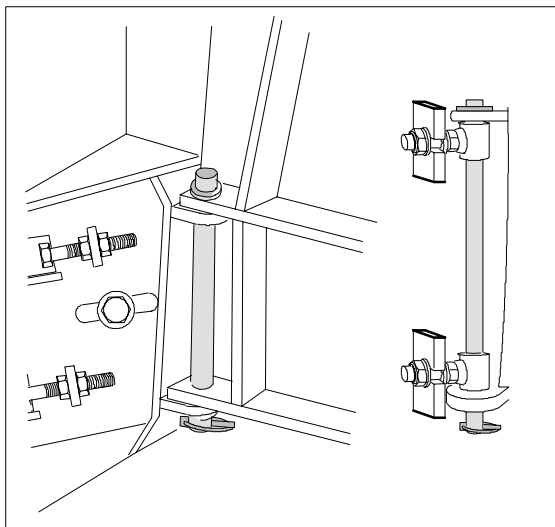

Fig.2.
1. Fasten the frame of the hydraulic feed to the chipper with two hinge pins. See fig.2.